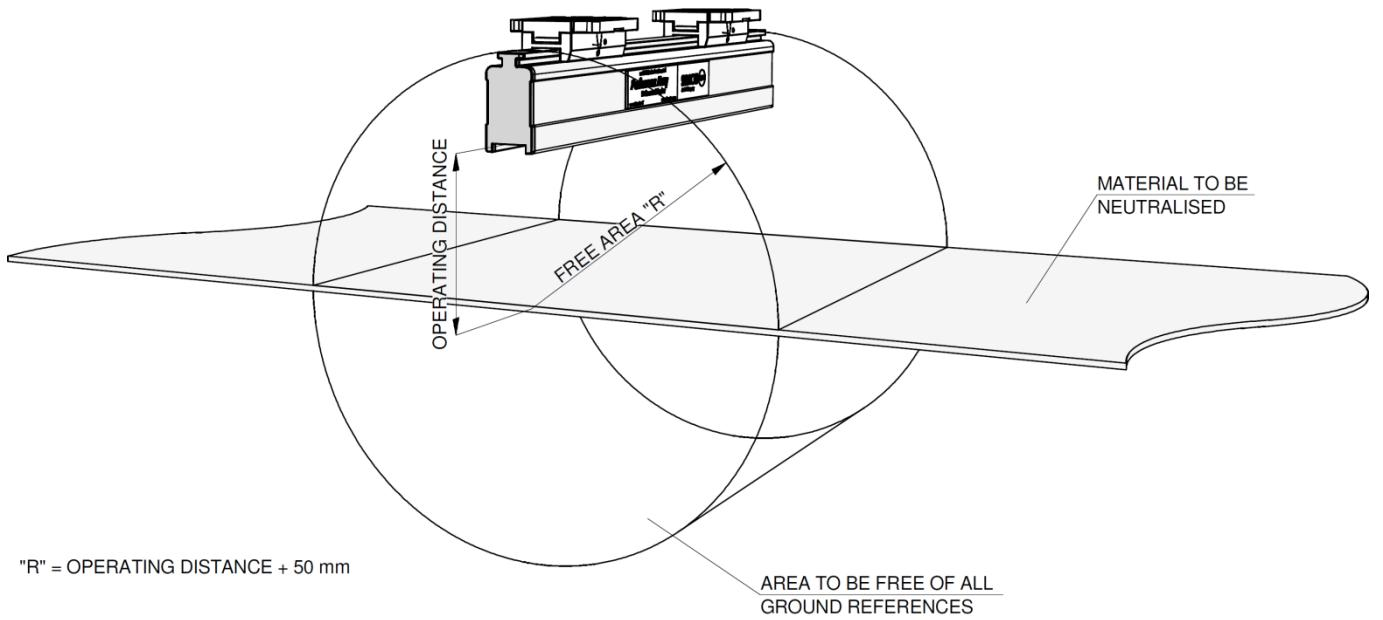

Figure 3: Optimal position Performax IQ Easy and Performax IQ Easy Speed and optional Sensor IQ Easy bar
- For optimum results, the anti-static bar must be fitted as per Figure 3.